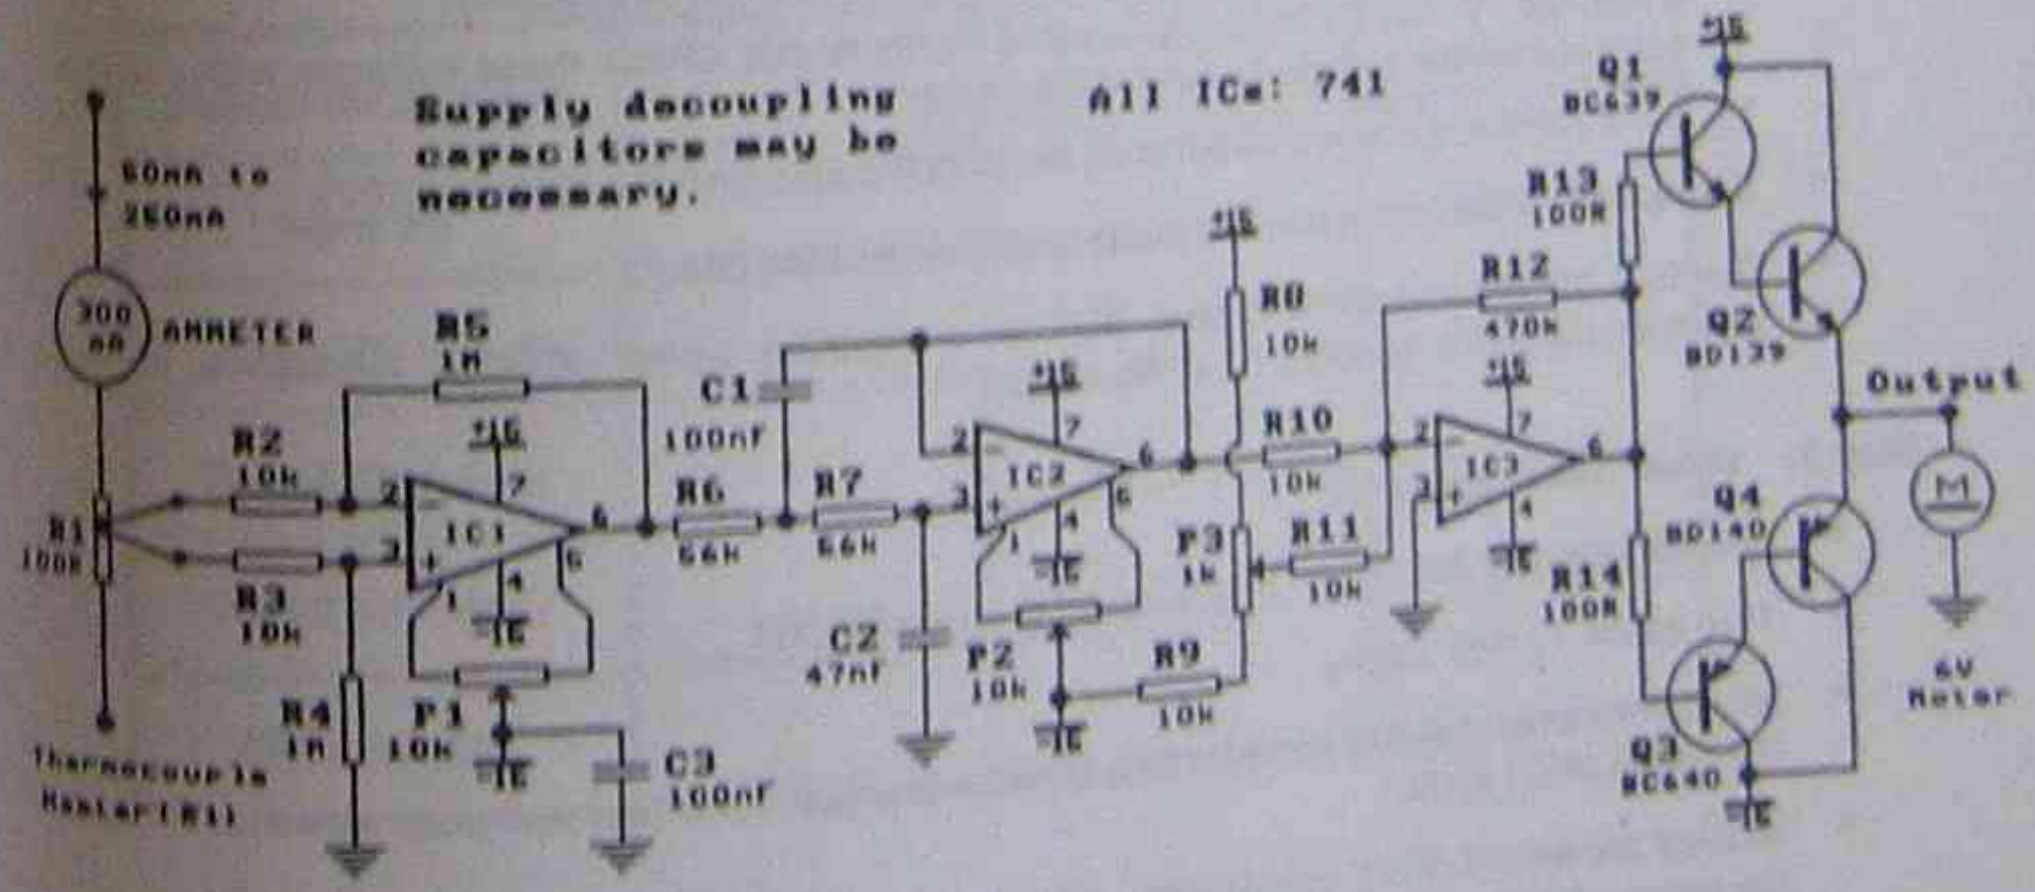

Fig. 1: Open loop DC motor control circuit
- Compare the slope of each graph. Do they have the same slope as the circuit of Fig. 1? If so, does this indicate that all the filters are second order types?
- Equipment: Printed circuit board containing the circuit of Fig.1; thermocouple thermally bonded to a 100 ohm, 10W resistor; DC power supply; 300mA ammeter; 6V DC motor; $\pm 15V$ DC supply; DVM.
The circuit of Fig.1 is an open loop, DC motor control circuit. A fan mounted between a furnace and a cooling chamber is required to control the temperature of a cooling chamber using heat from the furnace to heat the cooling chamber.
- For the circuit of Fig. 1, identify the configuration of each stage